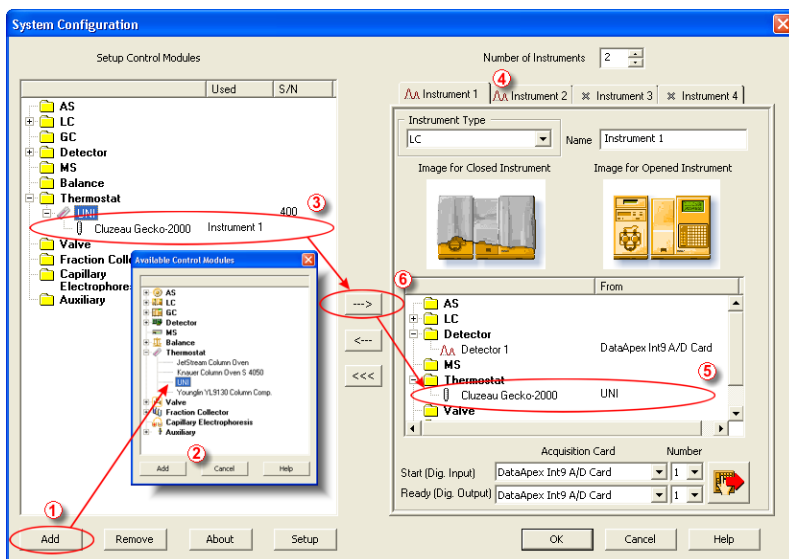

Fig 5: System Configuration
- Press the **Add** button (① on **Fig 5** on pg 5.) to invoke the **Available Control Modules** dialog.
- Select the **UNI** item from the **Thermostat** group and press the **Add** (② on **Fig 5** on pg 5.) button.